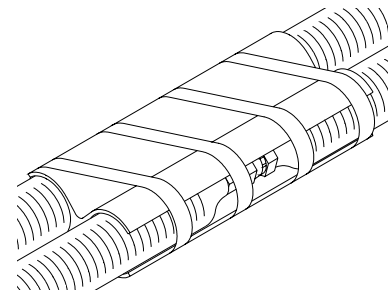

Figure 9. Hose Connection Step (d)
- d) Install the isolator between the chemical hose fittings. Use a small amount of tape to hold it in place (see Figure 9).